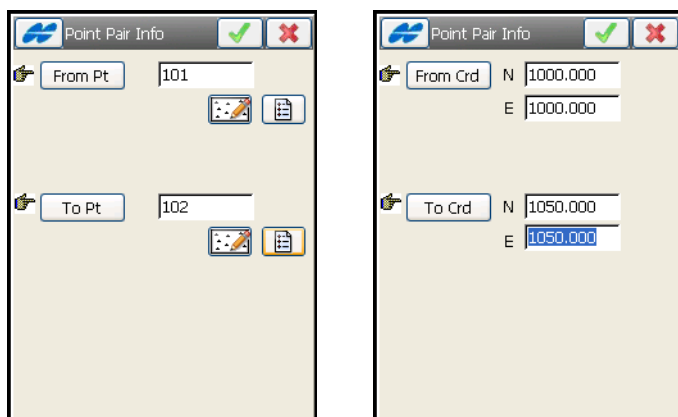

Figure 14-62. Point Pair Information
- **Add** – press to enter pairs of points or coordinates in the **Point Pair Info** screen (Figure 14-62 on page 14-49).
The *Point Pair Info* screen selects the pairs of points or coordinates to obtain transformation parameters (see Figure 14-62 on page 14-49).